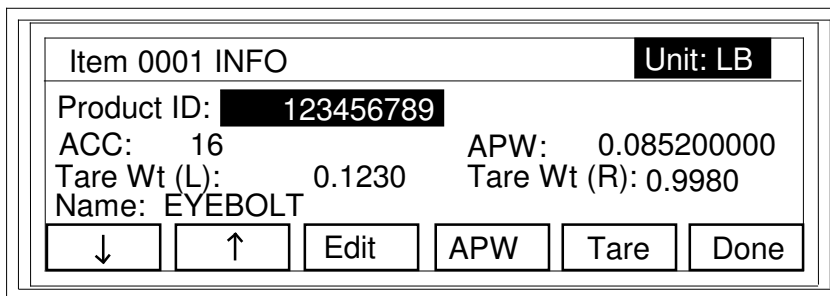

FIGURE 4-2: Edit Item ID Screen
2. Press the Item ID soft key. The scale prompts for the Item ID number. See FIGURE 4-2
- Once the desired item is highlighted, press the Edit soft key. The scale displays a list of stored item entries. The scale displays a summary of the item’s information on the screen shown in Figure 4-2.